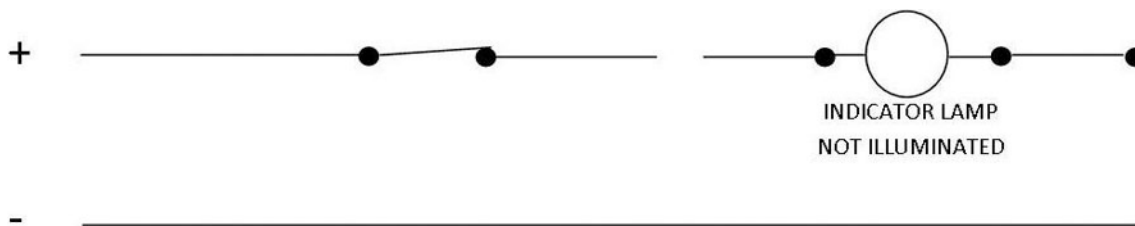

Figure 2-11. Open circuit.
Naturally, if there is an open there can be no current flow. Consequently, the unit does not operate. Figure 2-11 shows a circuit with an open wire. If the fault is an open, the (1) circuit is inoperative, (2) protective device does not activate, or (3) indicator lamps do not illuminate.